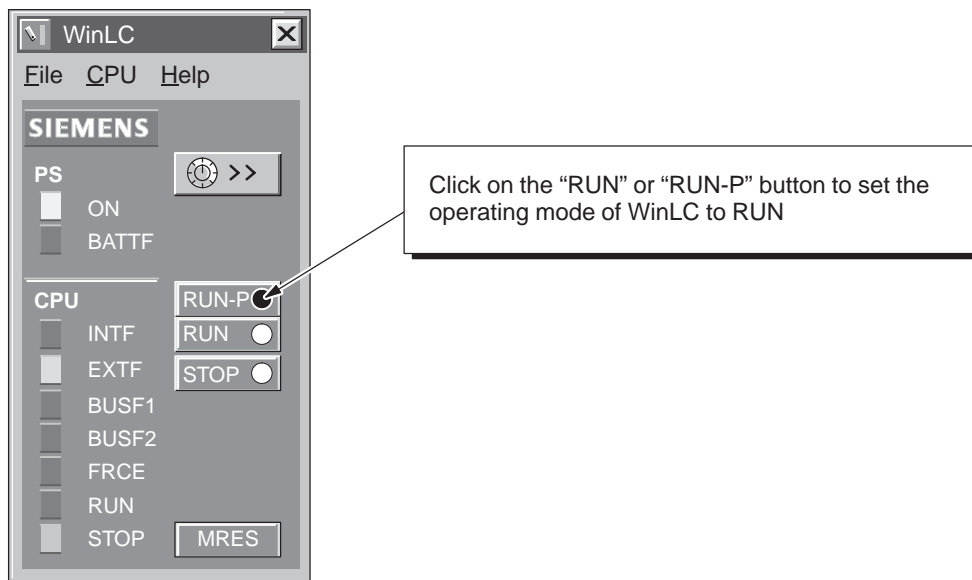

Figure 3-27 Setting WinLC in RUN mode
2. As shown in Figure 3-27, click on the “RUN” or “RUN-P” button to set WinLC to RUN mode. (You can also use the **CPU ▶ RUN** or **CPU ▶ RUN-P** menu command to change the operating mode of WinLC.)